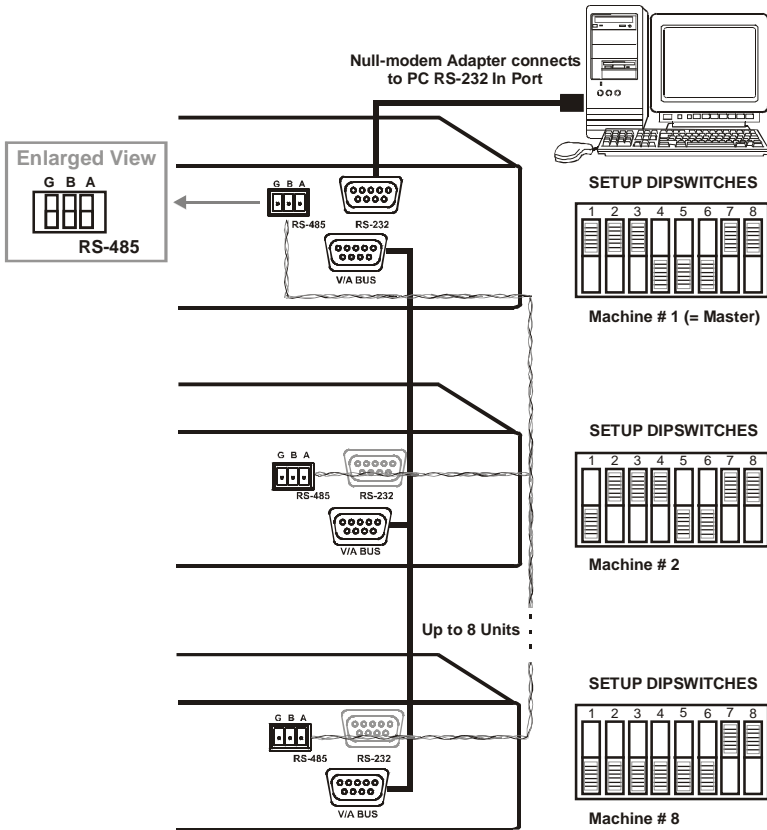

Figure 11: Cascading Units in an Input Expansion Configuration
You can cascade up to eight interconnected **VS-402XL/VS-602XL** units to form an input expansion configuration. For example, to create a 48 x 2 switcher, with 48 inputs and two outputs, connect as Figure 11 illustrates.
3. Connect the RS-485 terminal block port on the first **VS-402XL/VS-602XL** unit to the RS-485 port on the second **VS-402XL/VS-602XL** unit and so on, connecting all the RS-485 ports, as Figure 11 illustrates.
4. Interconnect the V/A (video/audio) BUS DB9F connectors between the VS-402XL/VS-602XL units1, as Figure 11 illustrates, using a 9-wire flat cable2 with DB9M connectors, as follows: